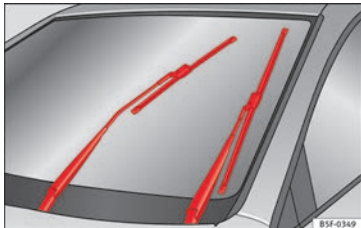

Fig. 72 Wipers in service position
- Turn the ignition on and off and then (with approximately 9 seconds) push the windscreen wiper lever down (short wipe). The windscreen wipers will move to the service position »» Fig. 72.